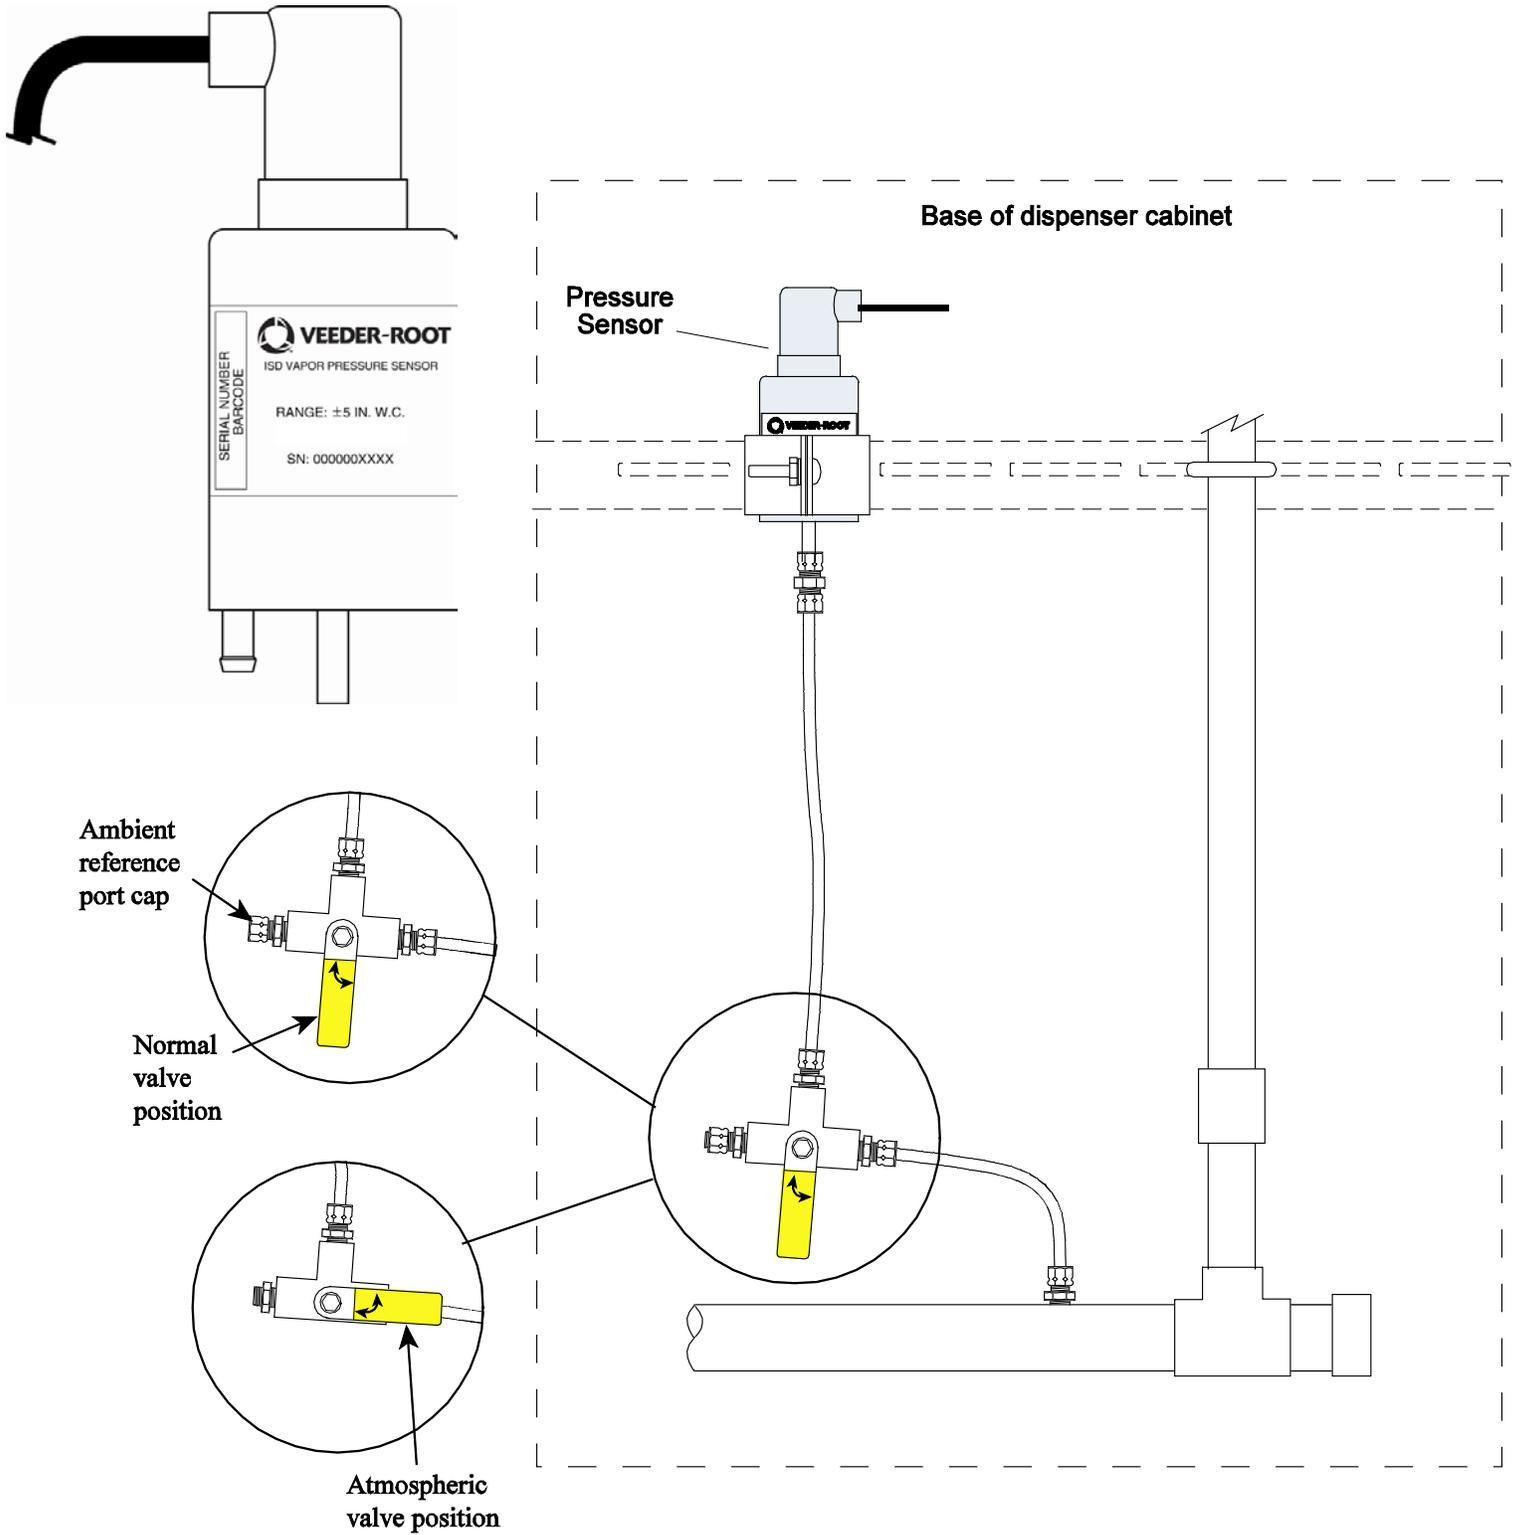
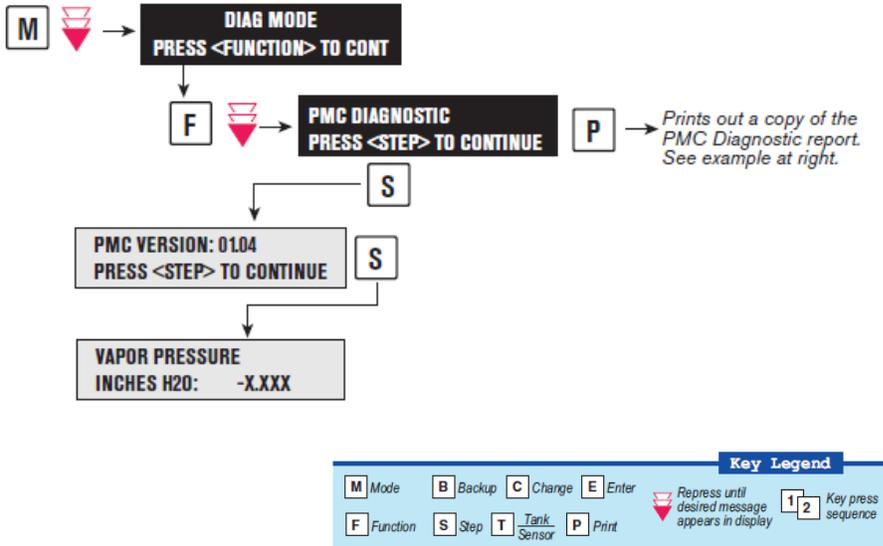

Figure 10-4
Figure 10-5
- 8.2 For gasoline dispensing facilities equipped with the VST Membrane Processor, VST Green Machine Processor, or Veeder Root Vapor Polisher Processor access the current vapor pressure sensor reading as indicated in Figure 10-4.
For gasoline dispensing facilities equipped with the Franklin Fueling Systems Healy Clean Air Separator or Hirt VCS 100 Thermal Oxidizer access the current vapor pressure sensor reading as indicated in Figure 10-5.
- 9.3 For gasoline dispensing facilities equipped with the VST Membrane Processor, VST Green Machine Processor, or Veeder Root Vapor Polisher Processor access the current vapor pressure sensor reading as indicated in Figure 10-4.
STEP 8.3	TLS Console SENSOR VALUE _____ inches WC (OBTAIN VALUE USING TLS CONSOLE KEYPAD SEQUENCE SHOWN IN FIG. 10-4 or FIG. 10-5, Vapor Pressure)
STEP 9.3	NON-CALIBRATED SENSOR VALUE _____ Inches WC (OBTAIN VALUE USING TLS CONSOLE KEYPAD SEQUENCE SHOWN IN FIG. 10-4 or FIG. 10-5, Vapor Pressure)